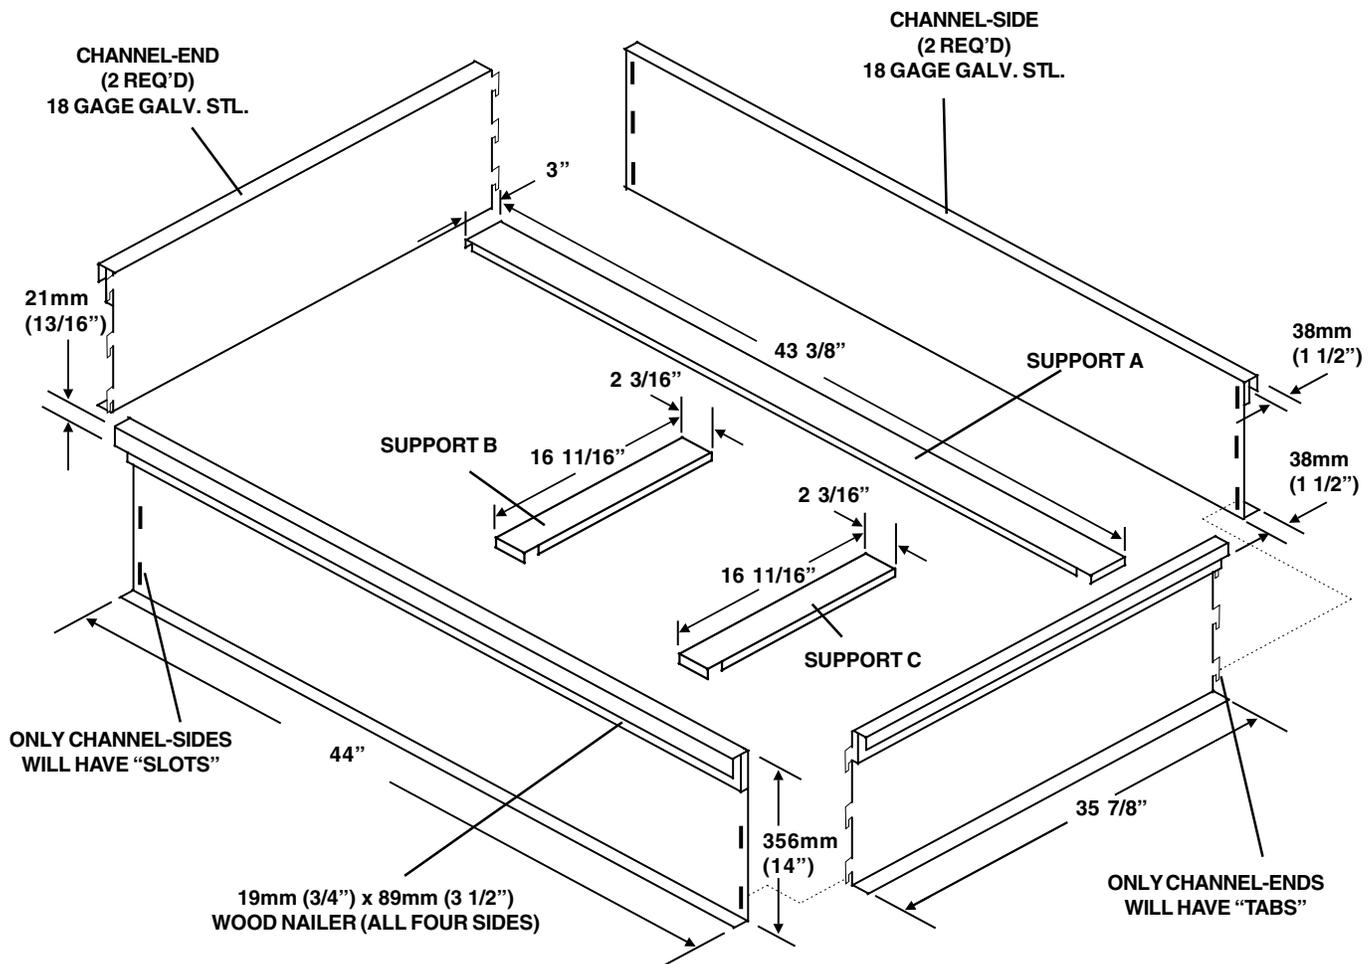

Figure 4. BAYCURB050A Component Drawing
- 4. See Figure 4, page 4, for components of curb.
3. Set supports A, B, and C onto channel sides and channel ends as shown in Figure 4 (below).